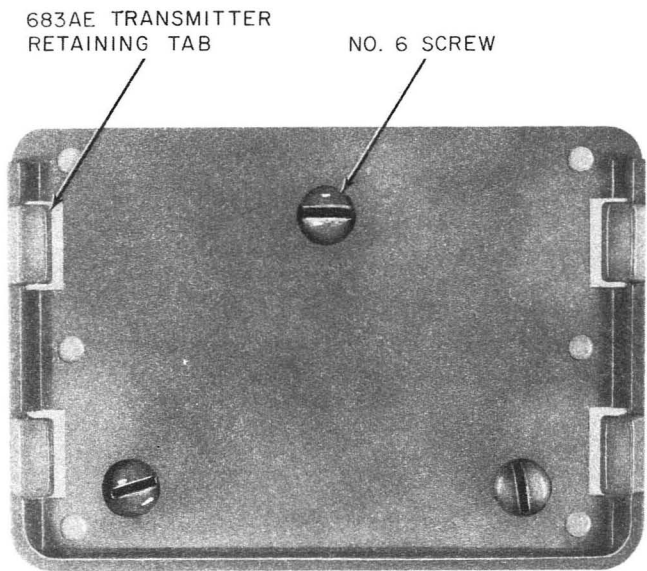
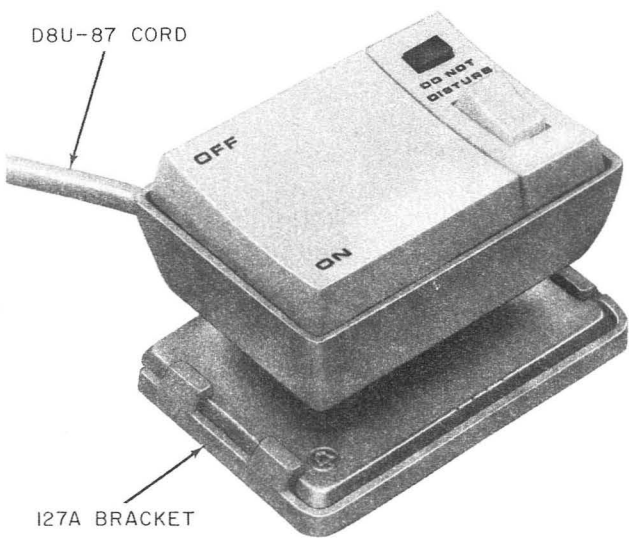

Fig. 5—127A Bracket (Wall Mounting)
Fig. 6—683AE Transmitter Installed on 127A Bracket
- Add new figure of 127A bracket, Fig. 5.
- Add new figure of 683AE transmitter, Fig. 6
3.11 The 127A bracket, (Fig. 5) is a molded plastic design that mounts on the wall using three No. 6 screws (provided locally). The 683AE transmitter slides in from the top and is held in place by four retaining tabs on the bracket (Fig. 6).